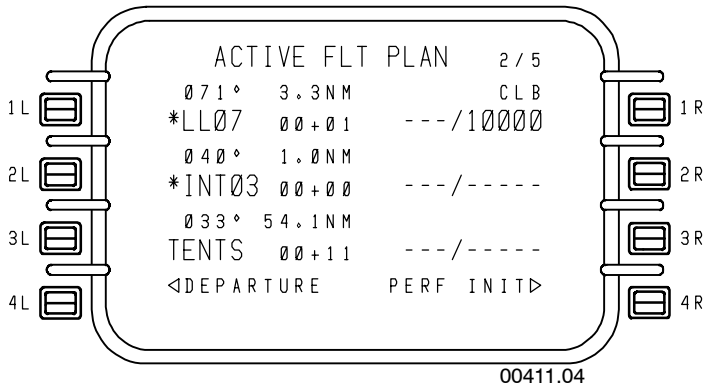

Figure 7-11
- **CONSTRAINT TYPE** – Constraint type is displayed directly above altitude constraints, as shown in Figure 7-11. The constraint type shows as CLB for climb constraints and DES for descent constraints. The FMS automatically assigns constraints in the first half of the flight plan as climb (CLB) and those in the last half as descent (DES). This automatic assignment is correct for most flights. The pilot can make an overriding entry. C, CLB, D, or DES are accepted as entries. Pilot entries are required for flights that climb, descend, and climb again.